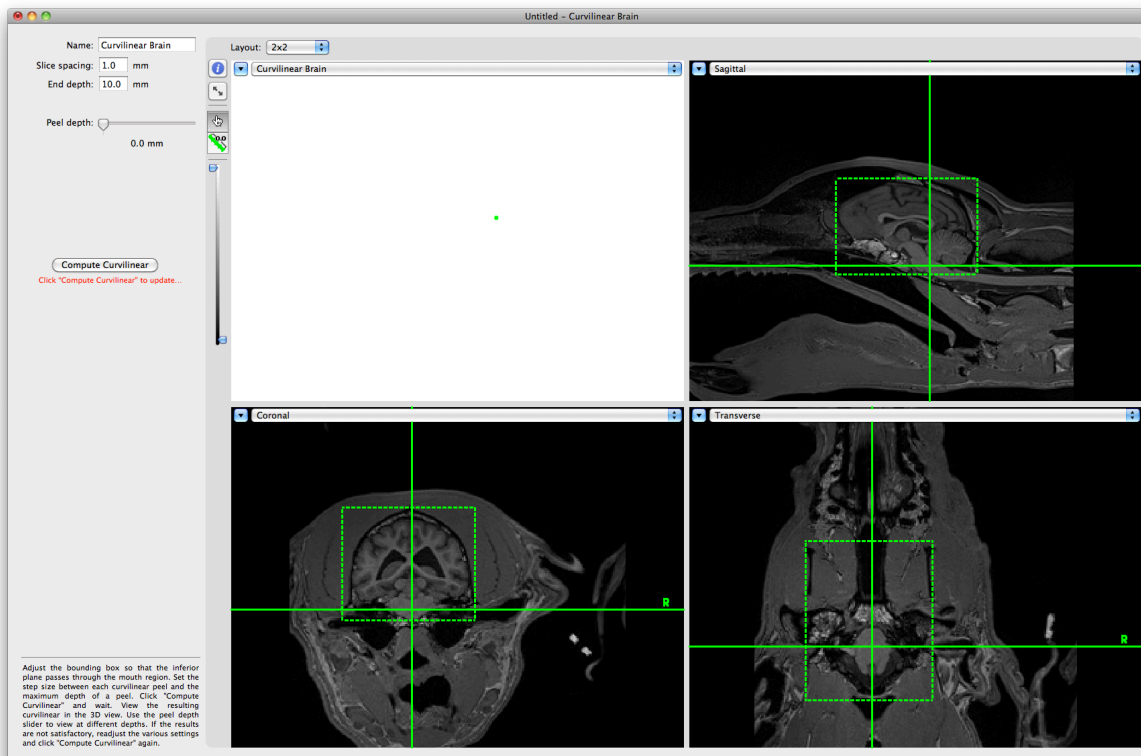

Fig. 10-7
- If the surface appears too spherical (see top left of Fig. 10-7), then the smoothing setting was likely too high. Lower it by dragging the smoothness slider to the left a couple of notches, then click **Compute Curvilinear**. After a moment, the change will appear in the 3D view.
- If the surface was too rough (bottom left of Fig. 10-7), then increase the smoothing by a notch or two by moving the smoothness slider to the right and click **Compute Curvilinear** again.
- The expected result is shown on the right of Fig. 10-7.